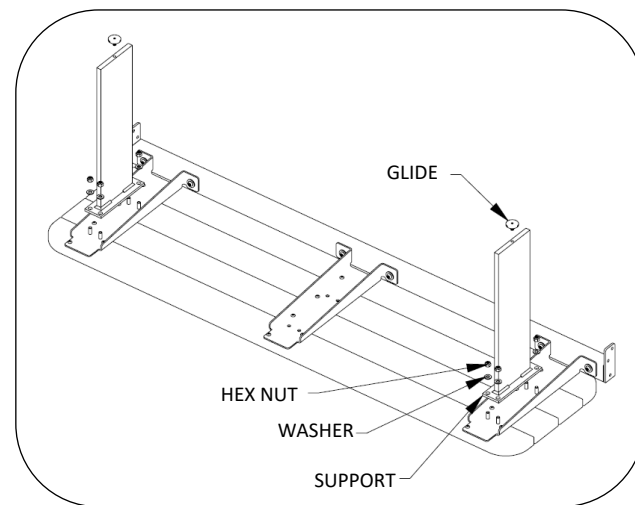

Fig. 1 – ATTACH SUPPORTS TO BENCH SEAT
2. Attach supports to seat assembly, see Fig. 1.
3. Thread glides into supports, see Fig. 1. Turn bench assembly upright.